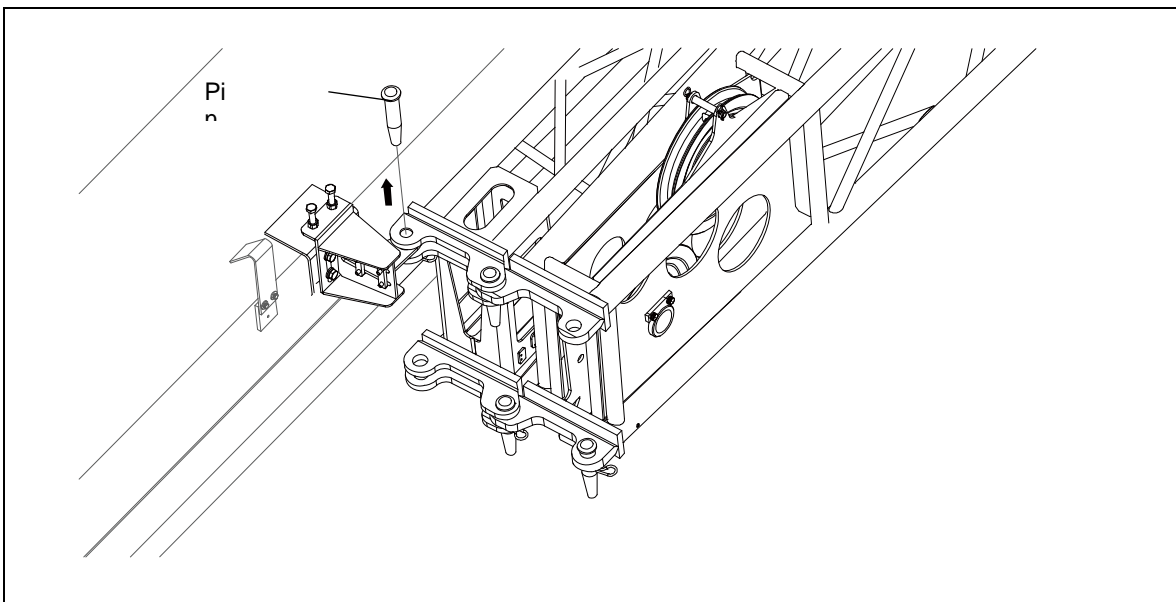

Figure 7-36 Pins III removal
- I. Remove the Pin III. Refer to Figure 7-36.